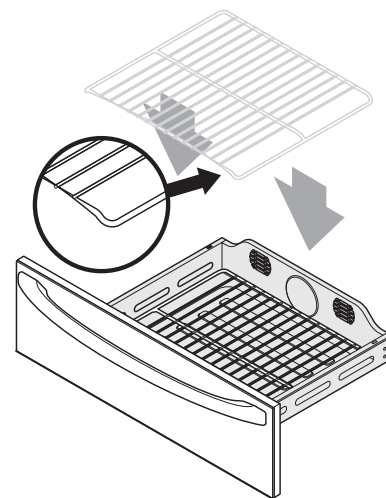

Fig. 1
- The lower oven rack **must always be in place when cooking or warming.** Be sure that the rack is placed with the down turned sides into the drawer -*Fig. 1*. This will provide for some air space between the drawer and the food.